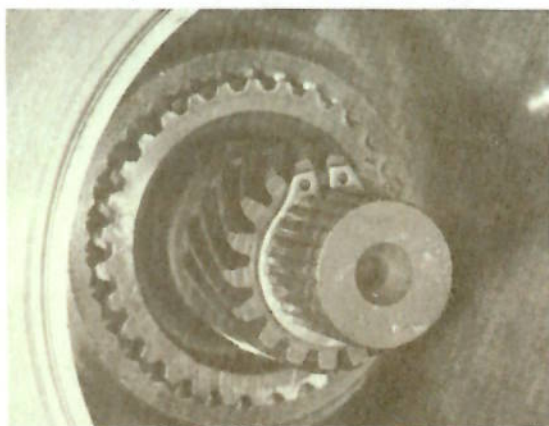

FIG. 21 - BRASS SYNCHRONIZER BLOCKING RING ENGAGED WITH THE SYNCHRONIZER ASSEMBLY.
40. Engage a brass synchronizer blocking ring (P/N 1020-1) with the overdrive synchronizer assembly. (Fig. 21). Rotate the blocking ring to insure timing of the three notches to the three synchro plates.